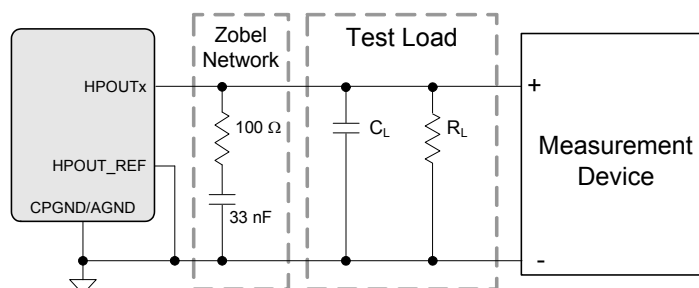
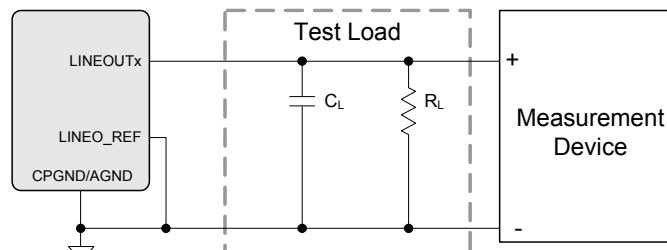

Figure 5. Headphone Output Test Configuration
Figure 6. Line Output Test Configuration
Test conditions (unless otherwise specified): "Typical Connection Diagram" on page 17 shows CS42L73 connections (including Zobel Networks on outputs); Input test signal is a 24-bit full-scale 997-Hz sine wave with 1 LSB of triangular PDF dither applied; GND = AGND = PGND = CPGND = DGND = 0 V; all voltages are with respect to ground (GND); VA = VCP = 1.80 V; TA = +25 °C; VCP Mode; Measurement Bandwidth is 20 Hz to 20 kHz; Fs = 48 kHz (Note 10); ASP is used and is in slave mode with Fsext = 48 kHz; test loading is configured as per Figure 5 on page 28 (RL and CL (= CL(Max)) as indicated in the table below); Mixer Attenuation and Digital Volume = 0 dB, Digital and Analog Mutes are disabled.
Test conditions (unless otherwise specified): “Typical Connection Diagram” on page 17 shows CS42L73 connections (including Zobel Networks on outputs); Input test signal is a 24-bit full-scale 997-Hz sine wave with 1 LSB of triangular PDF dither applied; GND = AGND = PGND = CPGND = DGND = 0 V; all voltages are with respect to ground (GND); VA = VCP = 1.80 V; T_A = +25 °C; VCP Mode; Measurement Bandwidth is 20 Hz to 20 kHz; Fs = 48 kHz (Note 10); ASP is used and is in slave mode with Fs_{ext} = 48 kHz; test loading is configured as per Figure 5 on page 28 (R_L and C_L (= C_{L(Max)}) as indicated in the table below); Mixer Attenuation and Digital Volume = 0 dB, Digital and Analog Mutes are disabled.
35. Figure 5 on page 28 and Figure 6 on page 29 shows headphone and line output test configurations.
Test conditions (unless otherwise specified): Connections to the CS42L73 are shown in the “Typical Connection Diagram” on page 17; Input test signal is a 24-bit full-scale 997 Hz sine wave with 1 LSB of triangular PDF dither applied; GND = AGND = PGND = CPGND = DGND = 0 V; all voltages are with respect to ground (GND); VA = VCP = 1.80 V; T_A = +25 °C; VCP Mode; Measurement Bandwidth is 20 Hz to 20 kHz; F_s = 48 kHz (Note 10); ASP is used and is in slave mode with F_{s_ext} = 48 kHz; test loading is configured as per Figure 6 on page 29 (R_L and C_L as indicated in the table below for R_{L(Min)} and C_{L(Max)}); Mixer Attenuation and Digital Volume = 0 dB, Analog Gain = +2 dB; Digital and Analog Mutes are disabled.